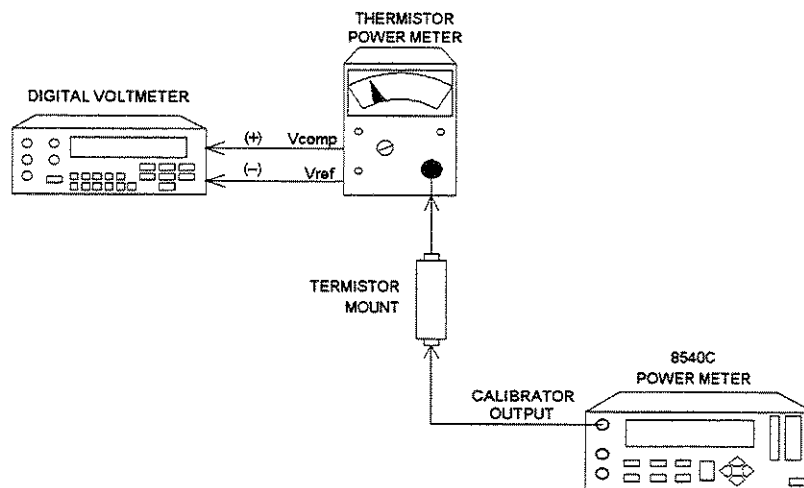

Figure 5-1. Calibrator output test setup
The test setup is illustrated in Figure 5-1.
1. Connect the 432A to the Calibrator Output on the 8540C as shown in Figure 5-1.